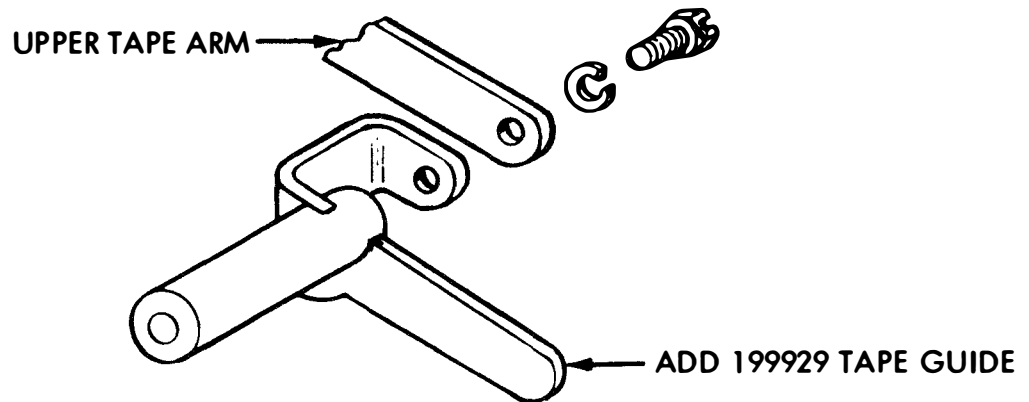

FIGURE 3
b. A 199929 Tape Guide is provided for mounting on the tape winder as shown in Figure 3. Position the guide and tighten the screw so the tape runs freely over the guide and into the winder.